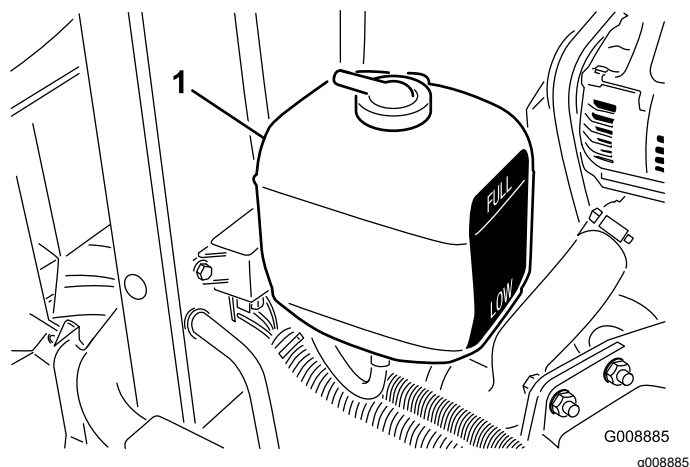

Figure 31
2. Check the coolant level in the expansion tank (Figure 31). With a cold engine, the coolant level should be approximately midway between the marks on the side of the tank.